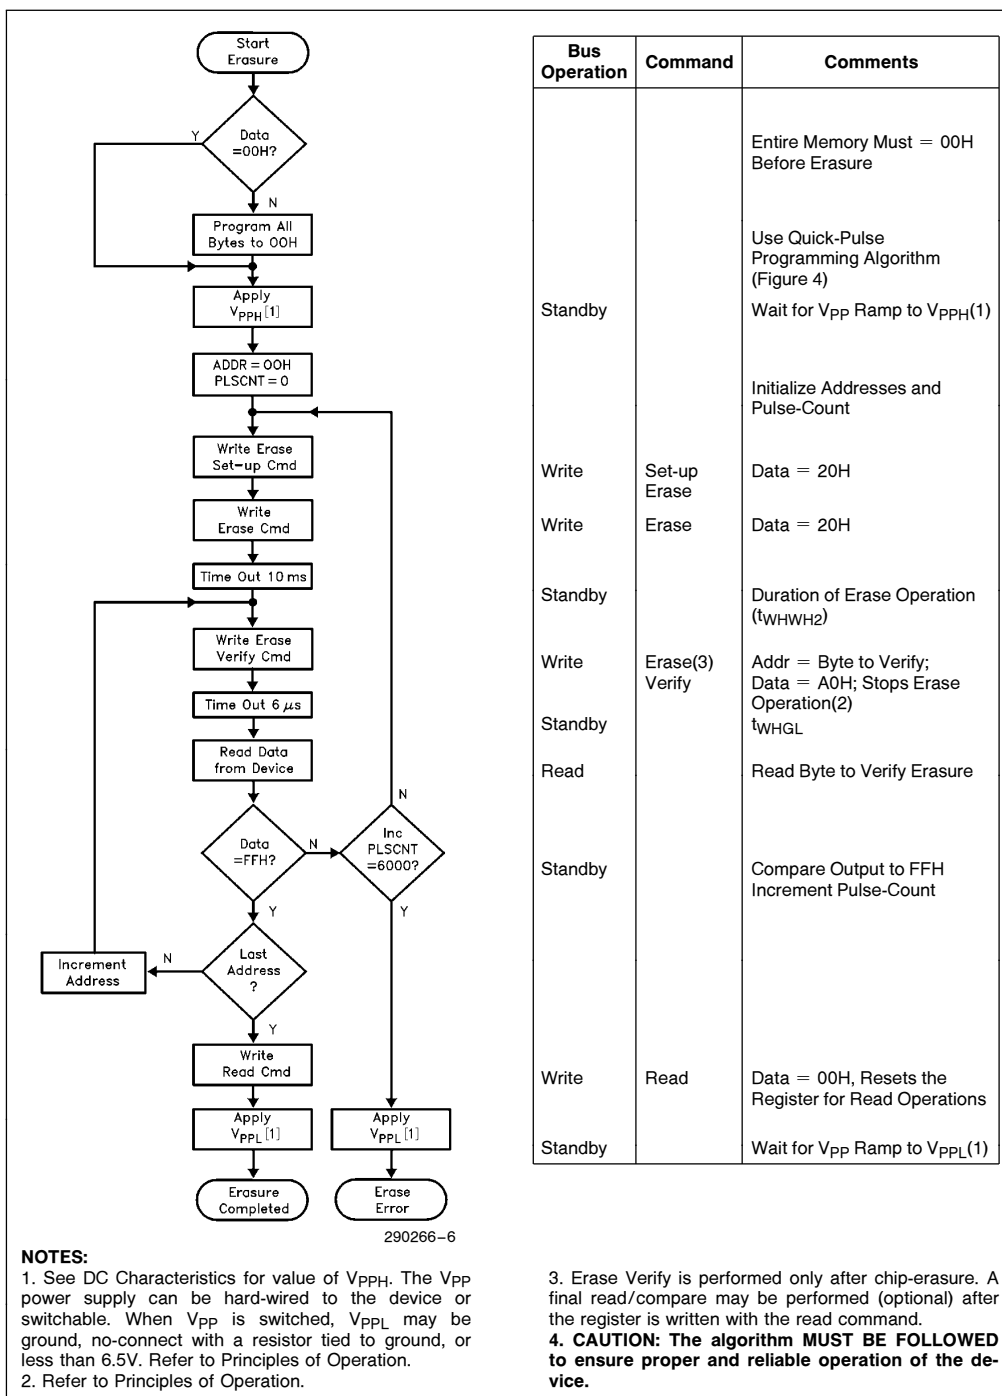

Figure 5. A28F010 Quick-Erase Algorithm
5. Figure 5 illustrates the Quick-Erase Algorithm.
In the case where the data read is not FFH, another erase operation is performed. (Refer to Set-up Erase/Erase). Verification then resumes from the address of the last-verified byte. Once all bytes in the array have been verified, the erase step is complete. The device can be programmed. At this point, the verify operation is terminated by writing a valid command (e.g. Program Set-up) to the command register. Figure 5, the Quick-Erase algorithm, illustrates how commands and bus operations are combined to perform electrical erasure of the 28F010. Refer to A.C. Erase Characteristics and Waveforms for specific timing parameters.
Erase execution then continues with an initial erase operation. Erase verification (data = FFH) begins at address 0000H and continues through the array to the last address, or until data other than FFH is encountered. With each erase operation, an increasing number of bytes verify to the erased state. Erase efficiency may be improved by storing the address of the last byte verified in a register. Following the next erase operation, verification starts at that stored address location. Erasure typically occurs in one second. Figure 5 illustrates the Quick-Erase algorithm.